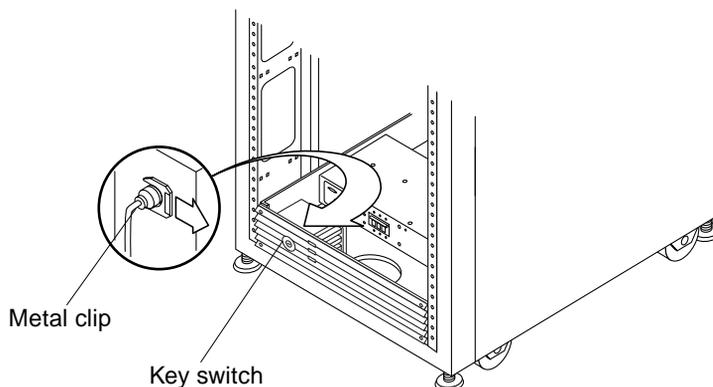

FIGURE 10-2 Removing and Replacing the Key Switch
4. **Facing the back of the key switch on the inside of the rack, use a pair of needlenose pliers to slide out and remove the metal clip that secures the key switch to the rack (FIGURE 10-2).**
2. **Facing the back of the key switch on the inside of the rack, slide the metal clip onto the notch of the key switch body to secure it in place (FIGURE 10-2)**